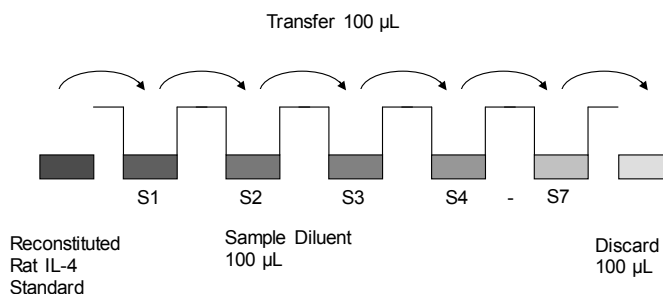

Fig. 7 Dilute standards - microwell plate
3. Standard dilution on the microwell plate (Alternatively the standard dilution can be prepared in tubes - see “External standard dilution” on page 3): Add 100 µL of Sample Diluent in duplicate to all standard wells. Pipette 100 µL of prepared standard (see “Rat IL-4 standard” on page 3, concentration = 200 pg/mL) in duplicate into well A1 and A2 (see Table 1). Mix the contents of wells A1 and A2 by repeated aspiration and ejection (concentration of standard 1, S1 = 100 pg/mL), and transfer 100 µL to wells B1 and B2, respectively (see Figure 7). Take care not to scratch the inner surface of the microwells. Continue this procedure 5 times, creating two rows of rat IL-4 standard dilutions ranging from 100.0 to 1.6 pg/mL. Discard 100 µL of the contents from the last microwells (G1, G2) used.